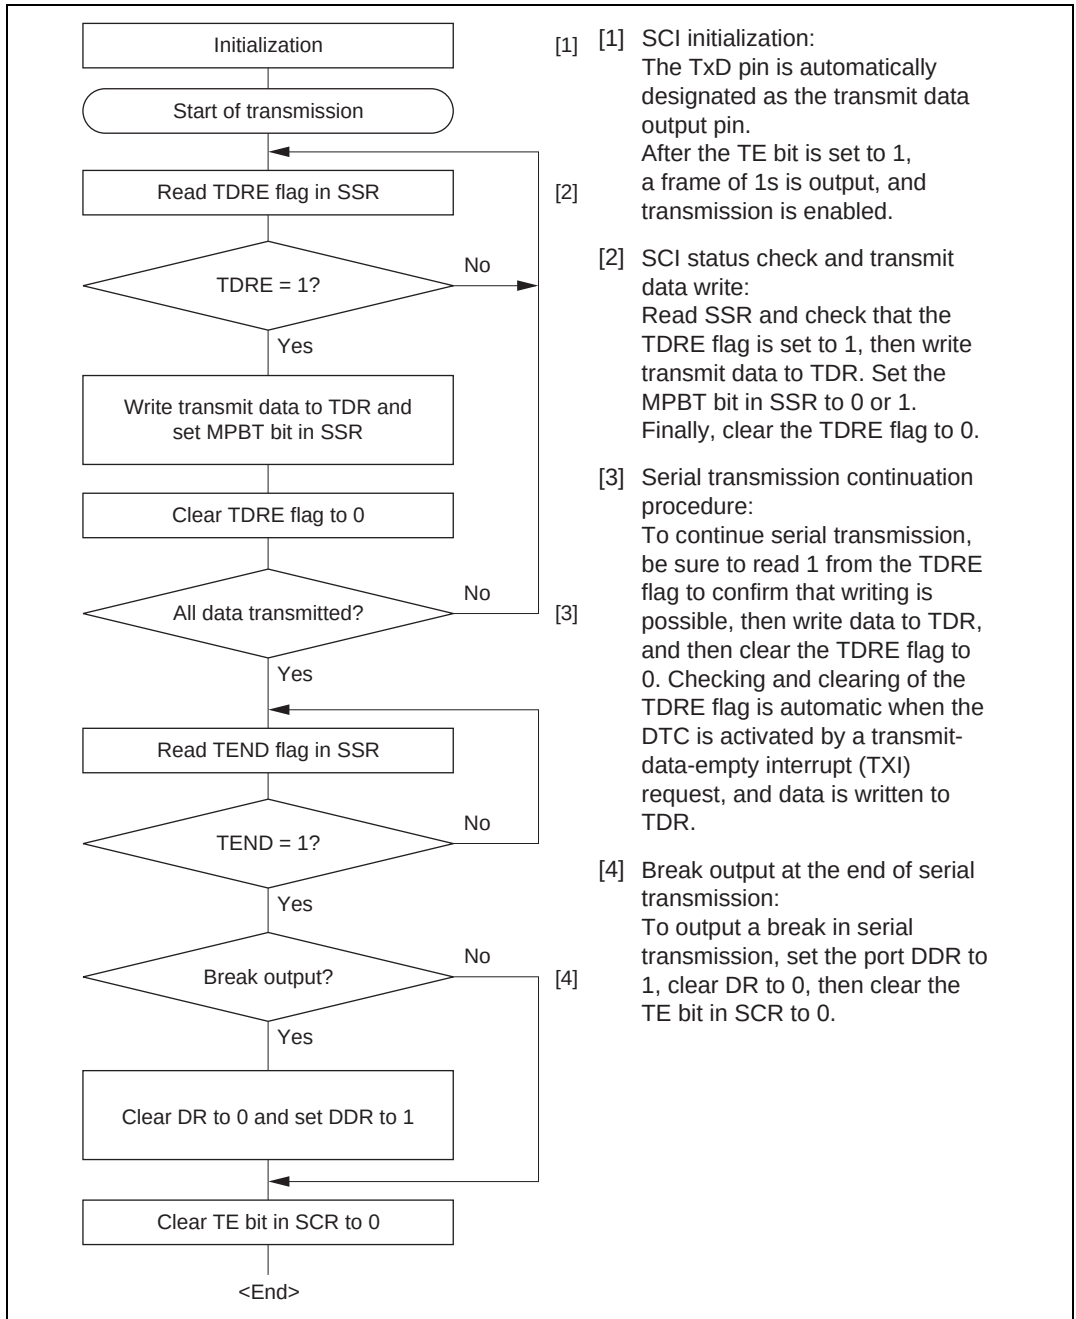

Figure 12.10 Sample Multiprocessor Serial Transmission Flowchart
**Multiprocessor serial data transmission:** Figure 12.10 shows a sample flowchart for multiprocessor serial data transmission.